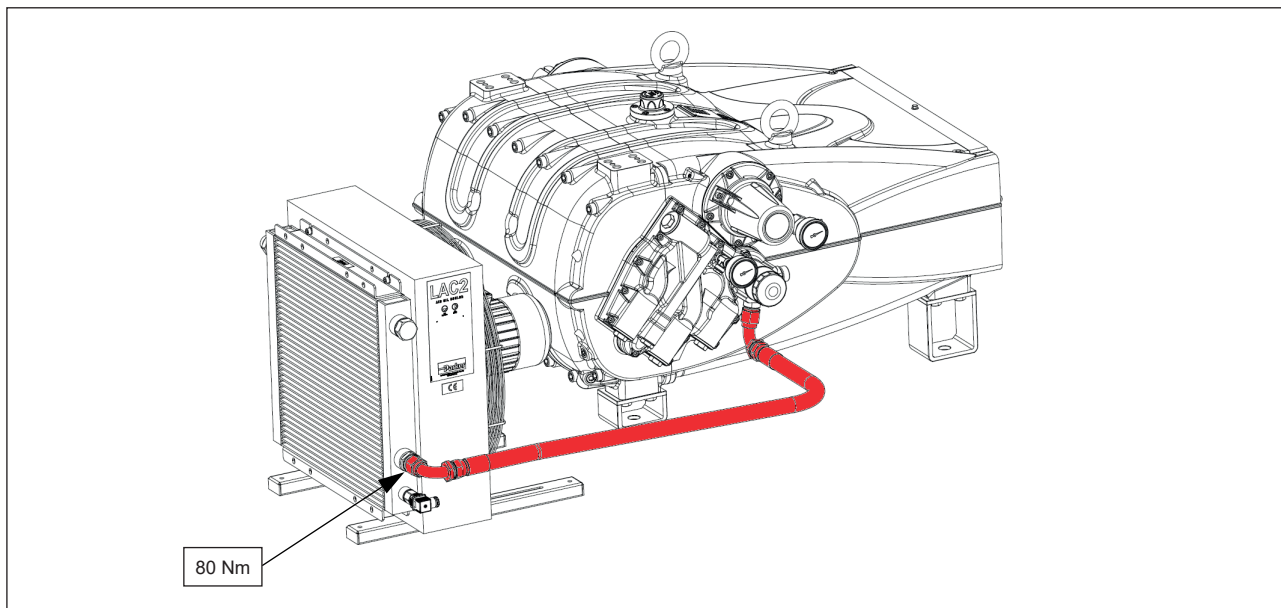

Fig. 15
2. Connect the first pipe by means of the 90° bend to the fitting located at the inlet of the exchanger, located on the bottom side of the exchange (see fig. 15). Tighten to 80 Nm torque.